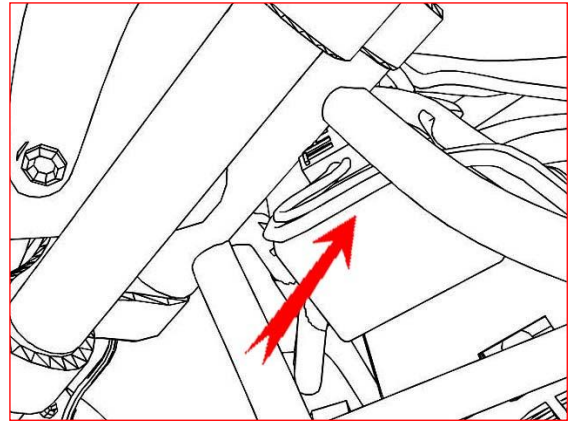

Figure 15
14. **Pull any excess slack in the TFI harness back to the front. (see figure 15)**